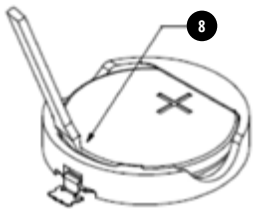

Fig. 8
The LCD will show “REPLACE BATTERY!” when it is time to change the battery. There is no need to replace a battery with a reading of 25% or higher. Remove the screw cover (6) of Fig. 1 by rotating counter clockwise. A screwdriver may be required to loosen the cover. Gently pry out the old battery with a small knife or tiny screwdriver as shown in (8) of Fig. 8, being careful not to damage the battery holder. Replace with a new CR2032 lithium coin cell battery and replace the screw cover. Tighten the cover clockwise until the o-ring seal is slightly compressed.